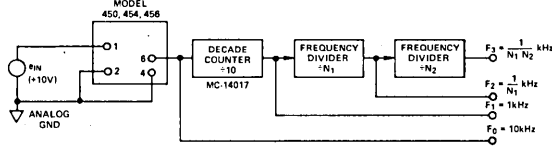

Figure 8. Voltage Controlled Square Wave Generator Using Digital Dividers and V/F Converter
**Lowering Full Scale Frequency:** The full scale frequency of a V/F converter can be reduced by three techniques; (1) adding a series trim potentiometer, such as 10kΩ, with the input; (2) adding a voltage divider network at the input; or (3) adding a digital divider at the output. Both input techniques (1) and (2), degrade the full scale gain drift by the added T.C. of the input resistors. By using a frequency divider connected to the V/F output, full scale frequency can be conveniently reduced without degradation of the converter's full scale drift performance. By adding successive frequency dividers, as illustrated in Figure 8, a precision, low-cost, voltage controlled square wave generator can be designed.